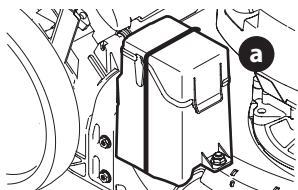

Figure 20
**NOTE:** Remove cable tie (a) from around battery box. Cable tie is used for shipping only (Figure 20).